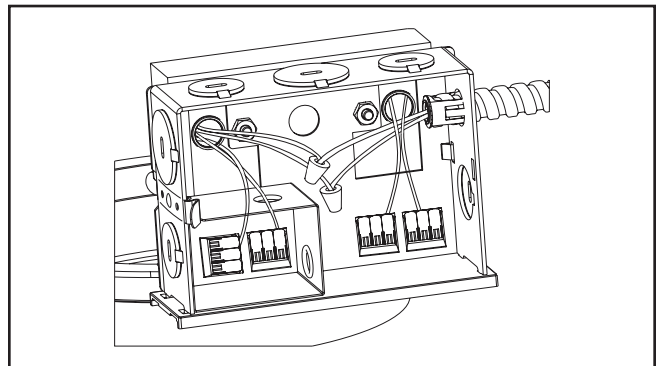

Figure 42.
- Remove junction box cover (Figure 42).